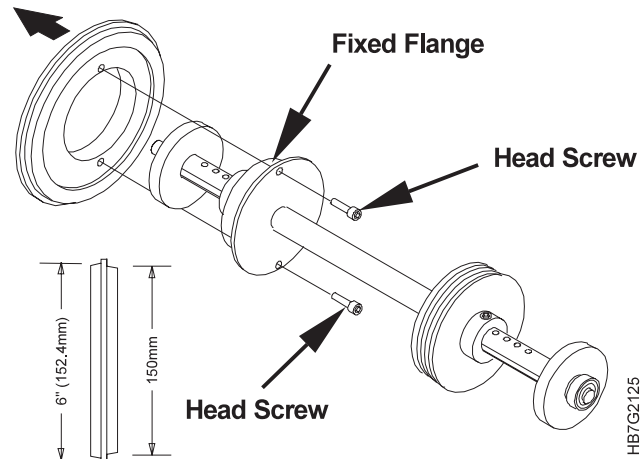

Figure 237. Removing the Fixed Flange
1. Remove the two head screws that attach the fixed flange to its base, remove the fixed flange from the shaft, turn the flange around and mount it again with the side with the other core diameter facing the middle of the shaft. Replace and tighten the screws, as shown in Figure 237 on page 271.